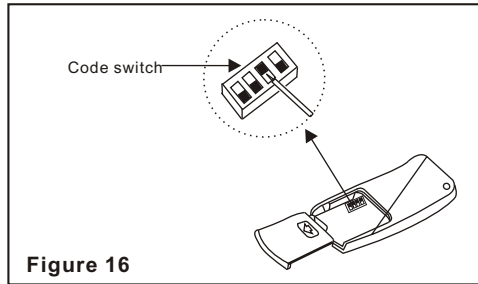

Figure 16
2.The transmitter frequency selector is located in the battery compartment as show in Fig.16. Each frequency selector has 4 switches, you may use any number of possible combinations but you must set each switch in the transmitter to match the same switch in the receiver.